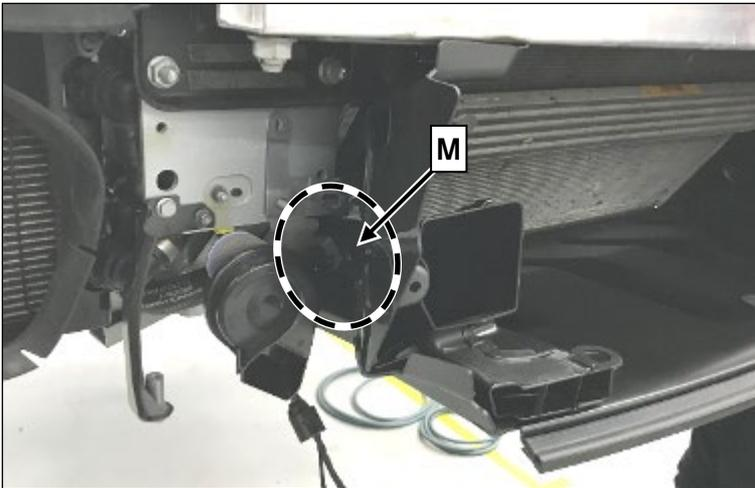

Figure 14
14. Install new air ducting A 190 505 36 00 with the attached holders and connect air ducting with air hoses (M, Figure 14).